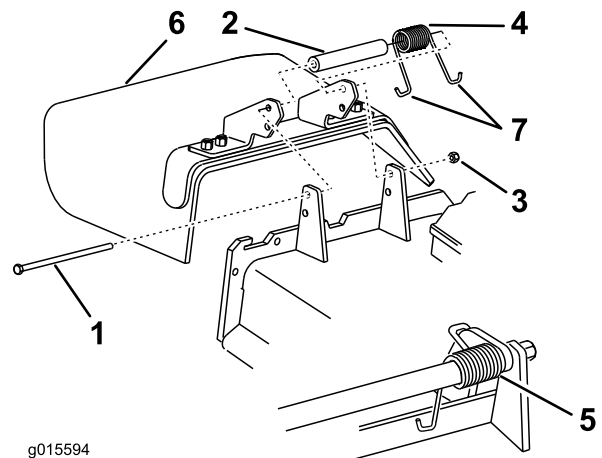

Figure 85
1. Remove the locknut, the bolt, the spring, and the spacer holding the deflector to the pivot brackets (Figure 85).
2. Remove the damaged or worn grass deflector (Figure 85).
**Note:** Make sure one J-end of the spring is installed behind the deck edge before installing the bolt as shown in Figure 85.
6. Place one J-hook end of the spring around the grass deflector (Figure 85).